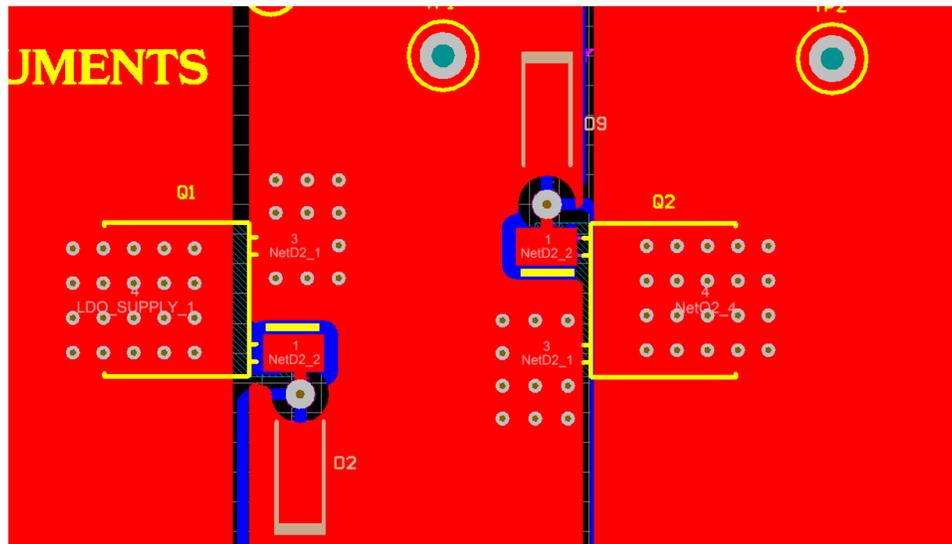

Figure 39. Positioning of Power MOSFETs
- Place D2 and D9 close to Q1 and Q2 as shown in Figure 39: